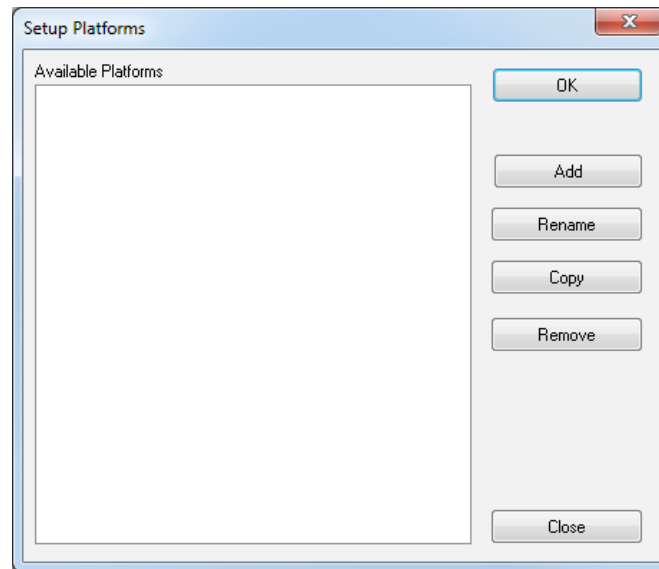

Figure 8: Platform Setup Dialog Box.
- **Launch Platform Setup:** Select *Setup Platforms* from the *Setup* menu. A dialog box appears to allow you to work with platforms. Figure 8 shows how this dialog box appears before any platforms have been created.